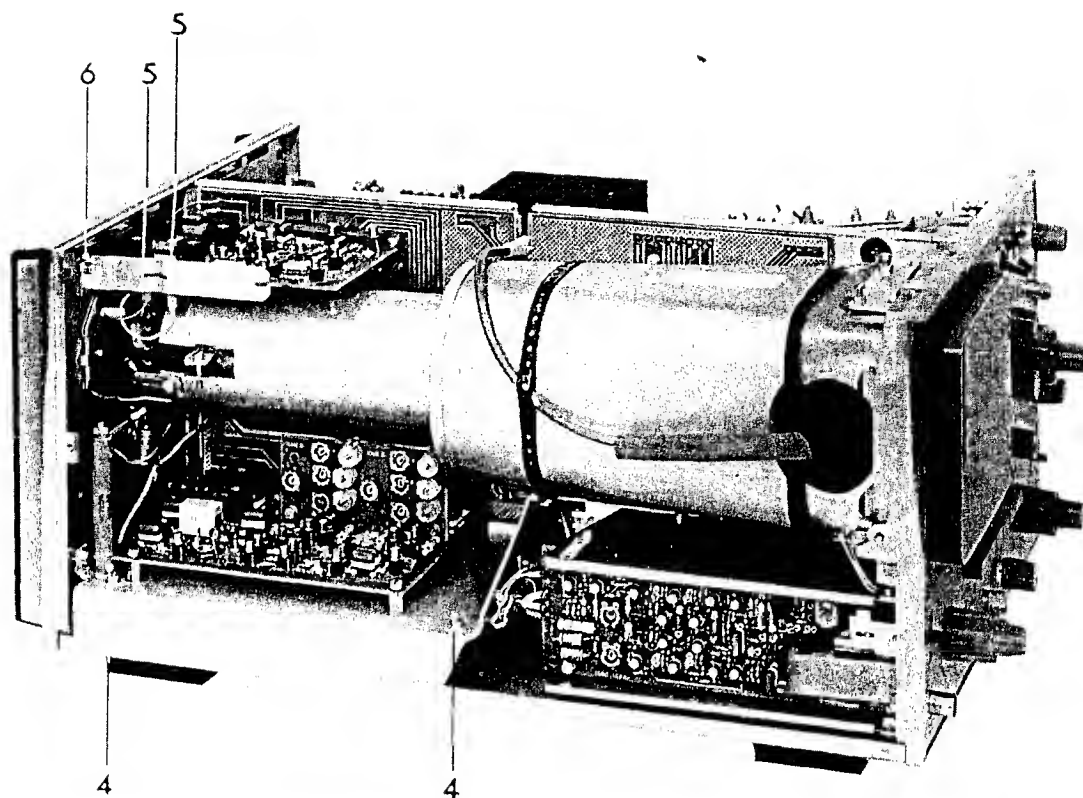

Fig. 34. Dismantling: left-hand side view
F. REMOVING VERTICAL AMPLIFIER UNIT 4 (Fig. 34)
G. REMOVING HORIZONTAL AMPLIFIER UNIT 7 (Fig. 34)